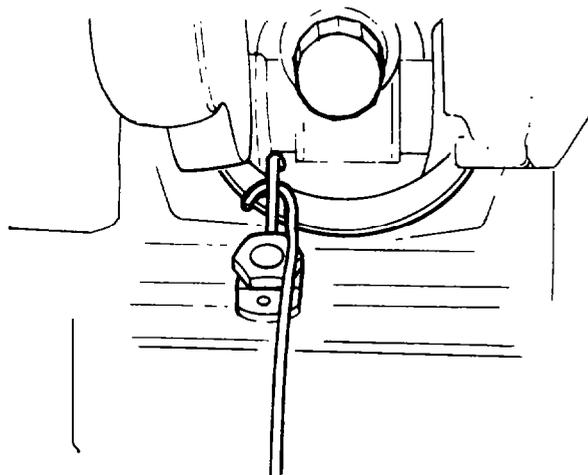

Fig. 84 — Checking Oil-spray Nozzle Clearance
w. Slide the GO gauge over the nozzle and check the clearance between the tube and piston skirt, then repeat with the NO GO gauge. The GO gauge indicates the correct clearance while the NO GO gauge indicates insufficient clearance (see fig. 84).